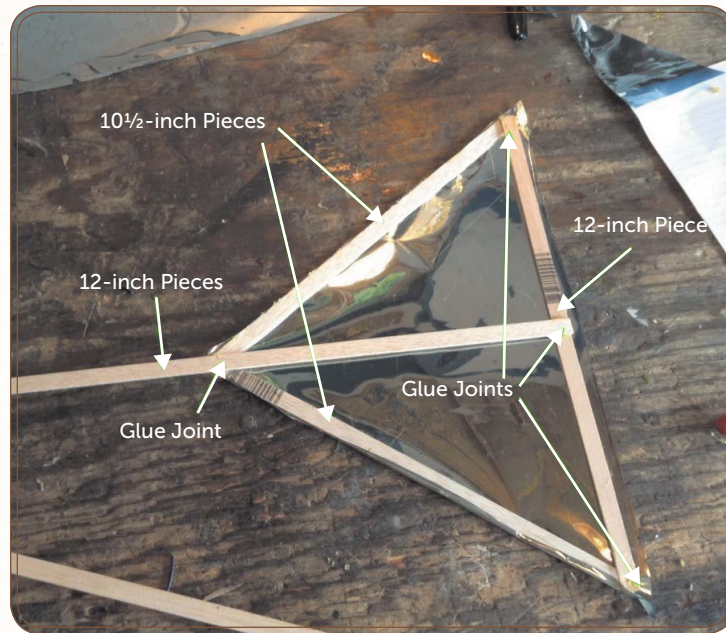

Figure 10.6: The assembled horizontal tail piece
2. Glue together the triangular horizontal tail piece shown in Figure 10.6 (on the next page) out of the $\frac{3}{8}$ -inch by $\frac{1}{16}$ -inch tail pieces.